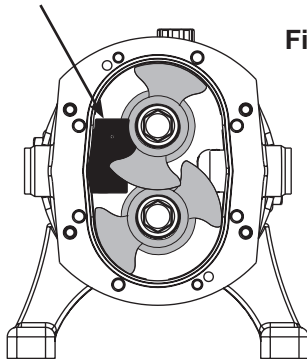

Fig. 9
1. Remove the timing gears (54) as described in section 4.6
2. Remove gear key (40), shims (53), spacer (52) and circlip (51).
3. Straighten the locking tab on the tabwasher (49).
4. Position the rotor locking piece as shown in fig. 9, and undo the drive shaft (38) bearing lock nut (50).